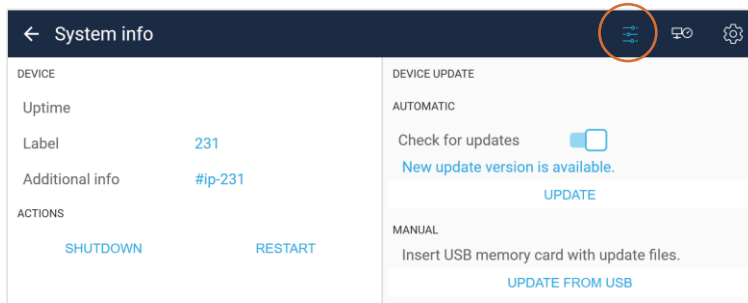

Figure 28: System info, screen 1: Device information and Firmware update
System info, screen 1 on the Sub-View toolbar (see Figure 28) is the default screen when selecting the System info icon on the Home screen toolbar.
- Switch is white when active, and the device polls the update server for possible new updates (see Figure 28)